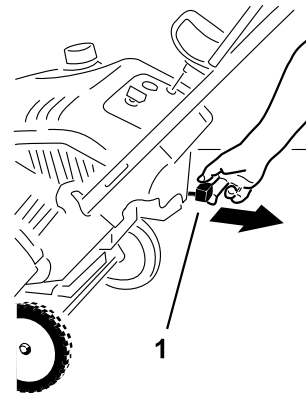
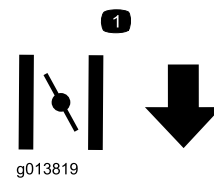

Figure 11
Figure 12
2. Pull out the choke lever (Figure 11 and Figure 12).